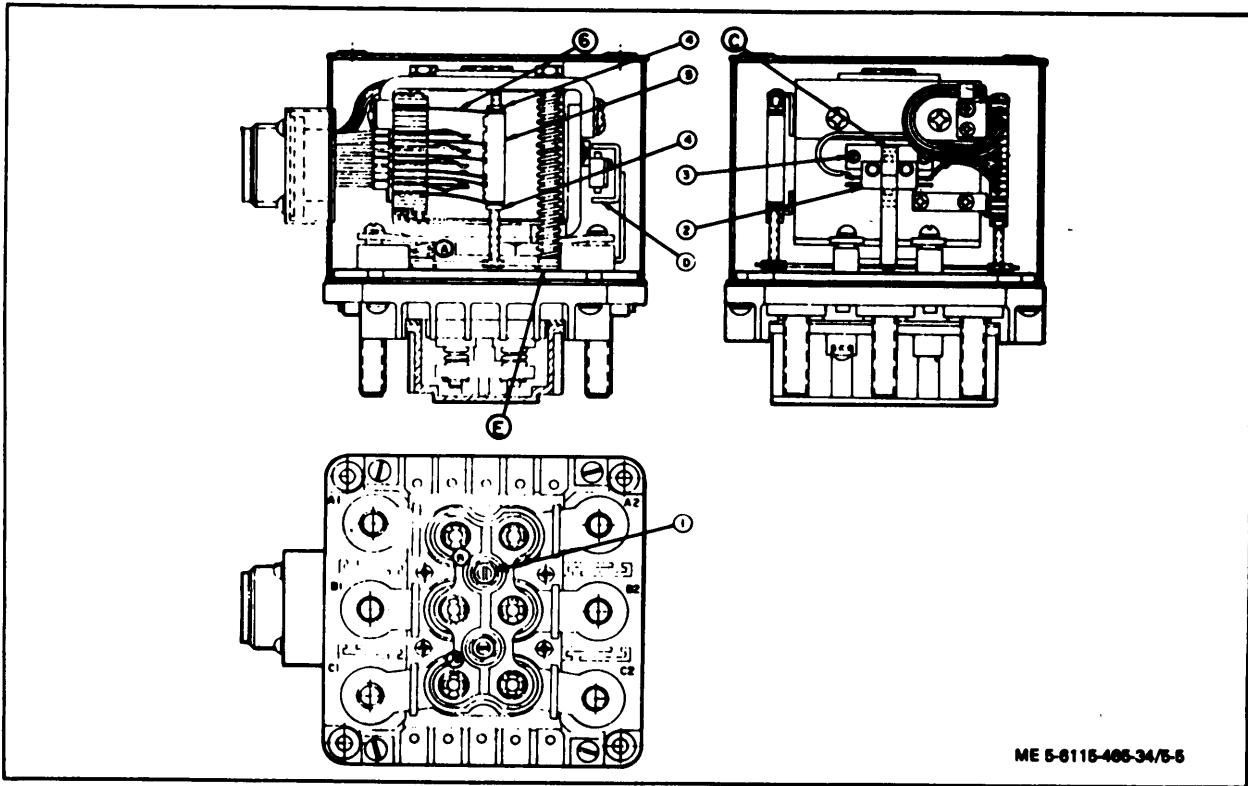

Figure 5-5. Main Load Contactor Adjustments
(18) Install main contact assembly (23) and secure with lockwashers (22) and nuts (21). Adjust contact over travel as follows: (See figure 5-5. )
(d) Adjust carrier bushing at point (B) (figure 5-5) until continuity is indicated at terminals A1-A2 and C1-C2.
(19) Adjust economizing switch as follows: (see figure 5-5.)
(e) Bend the tab (point D, figure 5-5) of bracket toward the switch until the switch actuates.
(20) Adjust auxiliary contacts as follows: (see figure 5-5.)